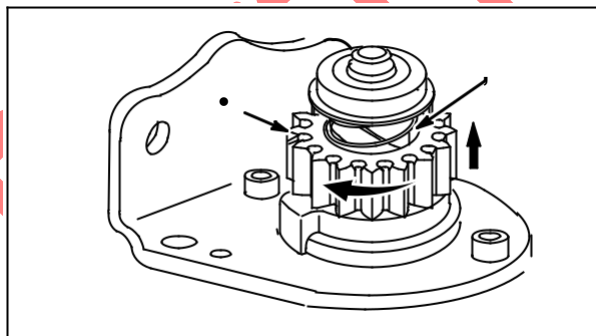
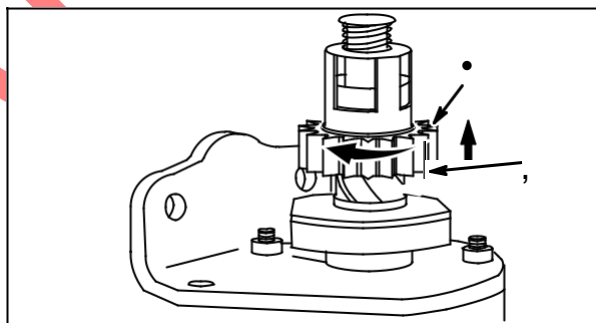
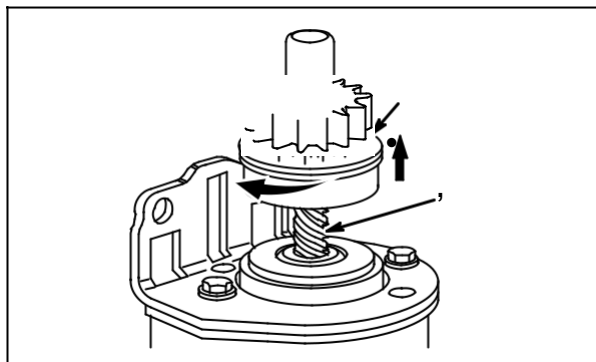

Fig. 4
Fig. 5
Fig. 6
The nylon pinion starter drives use either the C-ring retainer, **Fig. 4** or the roll pin retainer, **Fig. 5**. The steel pinion starter drive is shown in **Fig. 6**. When the starter motor is activated, the pinion gear should engage the flywheel ring gear and crank the engine. If it does not, inspect the helix and the pinion gear for freedom of operation.
Inspect the pinion gear (1) for damaged teeth. The gear must move freely on helix (2), **Figs. 4, 5 or 6**.